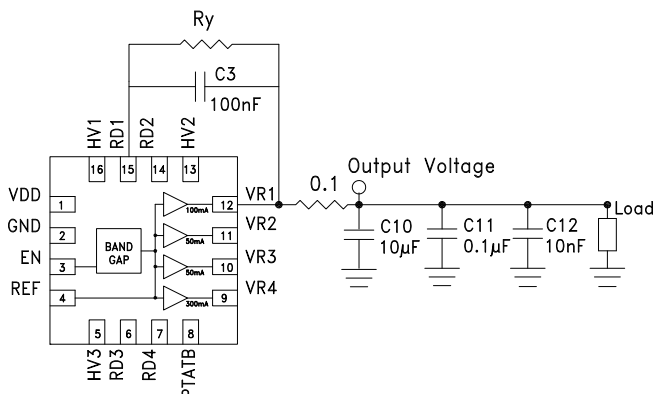

Figure 13. Recommended HMC1060LP3E configuration for supplying output voltage values less than default. [1]
The outputs of the HMC1060LP3E are configured to supply voltages less than the default values, down to 1.8 V minimum, by connecting a resistance (R_y in Figure 13) between pins VR_x and RD_x (where $x = 1, 2, 3, 4$). Figure 13 shows an example of configuring VR1 output. Other outputs are configured in exactly the same way (ie. R_y is added between VR2 & RD2, VR3 & RD3 and between VR4 & RD4).
2. To set VR1 = VR2 = VR3 = 1.8 V in with PTAT Mode disabled, external resistance Ry = 21 kΩ shown in Figure 13 is required.